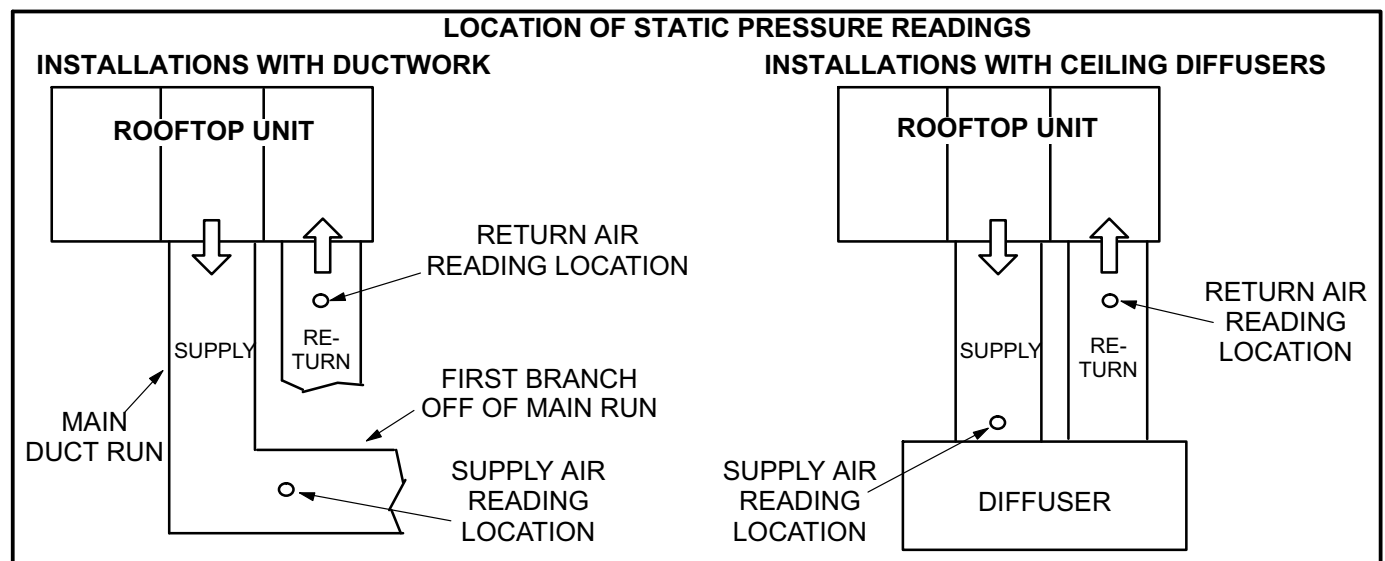

FIGURE 19
- 2- With all access panels in place, measure static pressure external to unit (from supply to return). Blower performance data is based on static pressure readings taken in locations shown in figure 19.